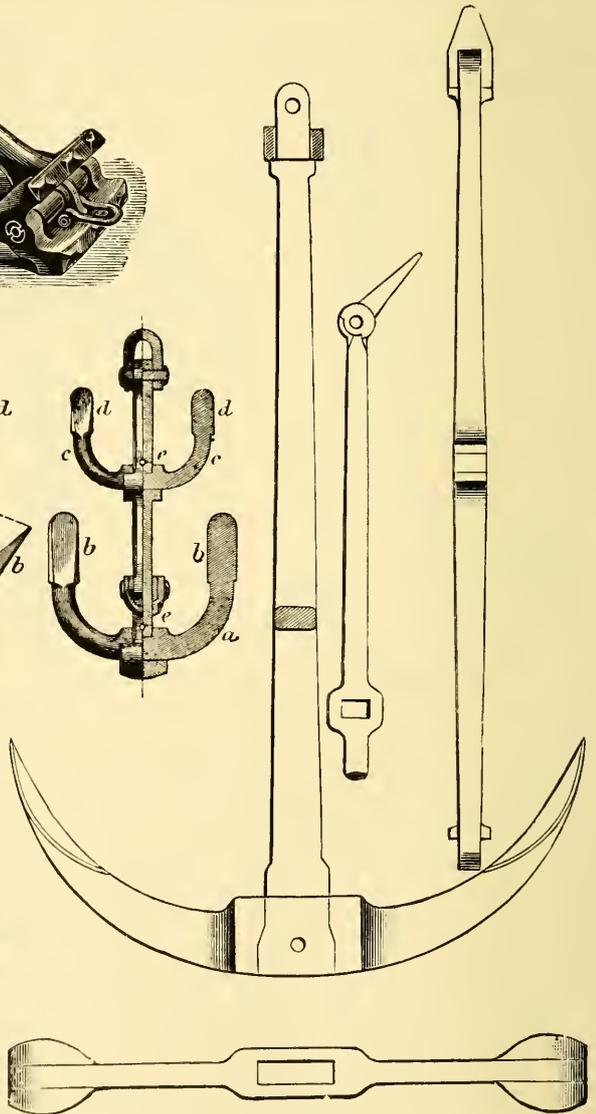

FIG. 225.
*Anchor (Moore's).*—The portable anchor (Fig. 225), invented by Mr. Louis Moore, has no fastenings except the chain shackle. It is easily taken to pieces, and stows snugly. The shank passes through the crown of the anchor like the handle of a pickaxe, and the stock passes over the end of the shank; no keys, bolts, &c., are required. The stock has loose pawls, as shown by the views. The